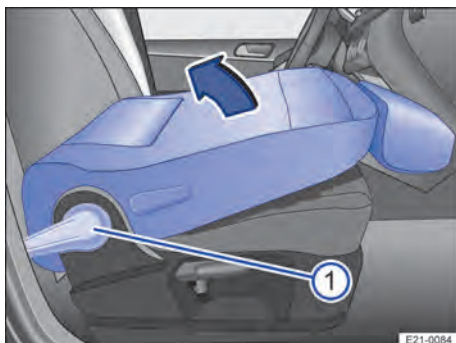

Fig. 63 Front passenger seat: folding the backrest backwards.
2. To fold it back, press the lever → Fig. 63 ① down to release the front passenger seat backrest again.
3. Fold back the front passenger seat backrest in the direction of the arrow → Fig. 63 until it reaches the upright position.